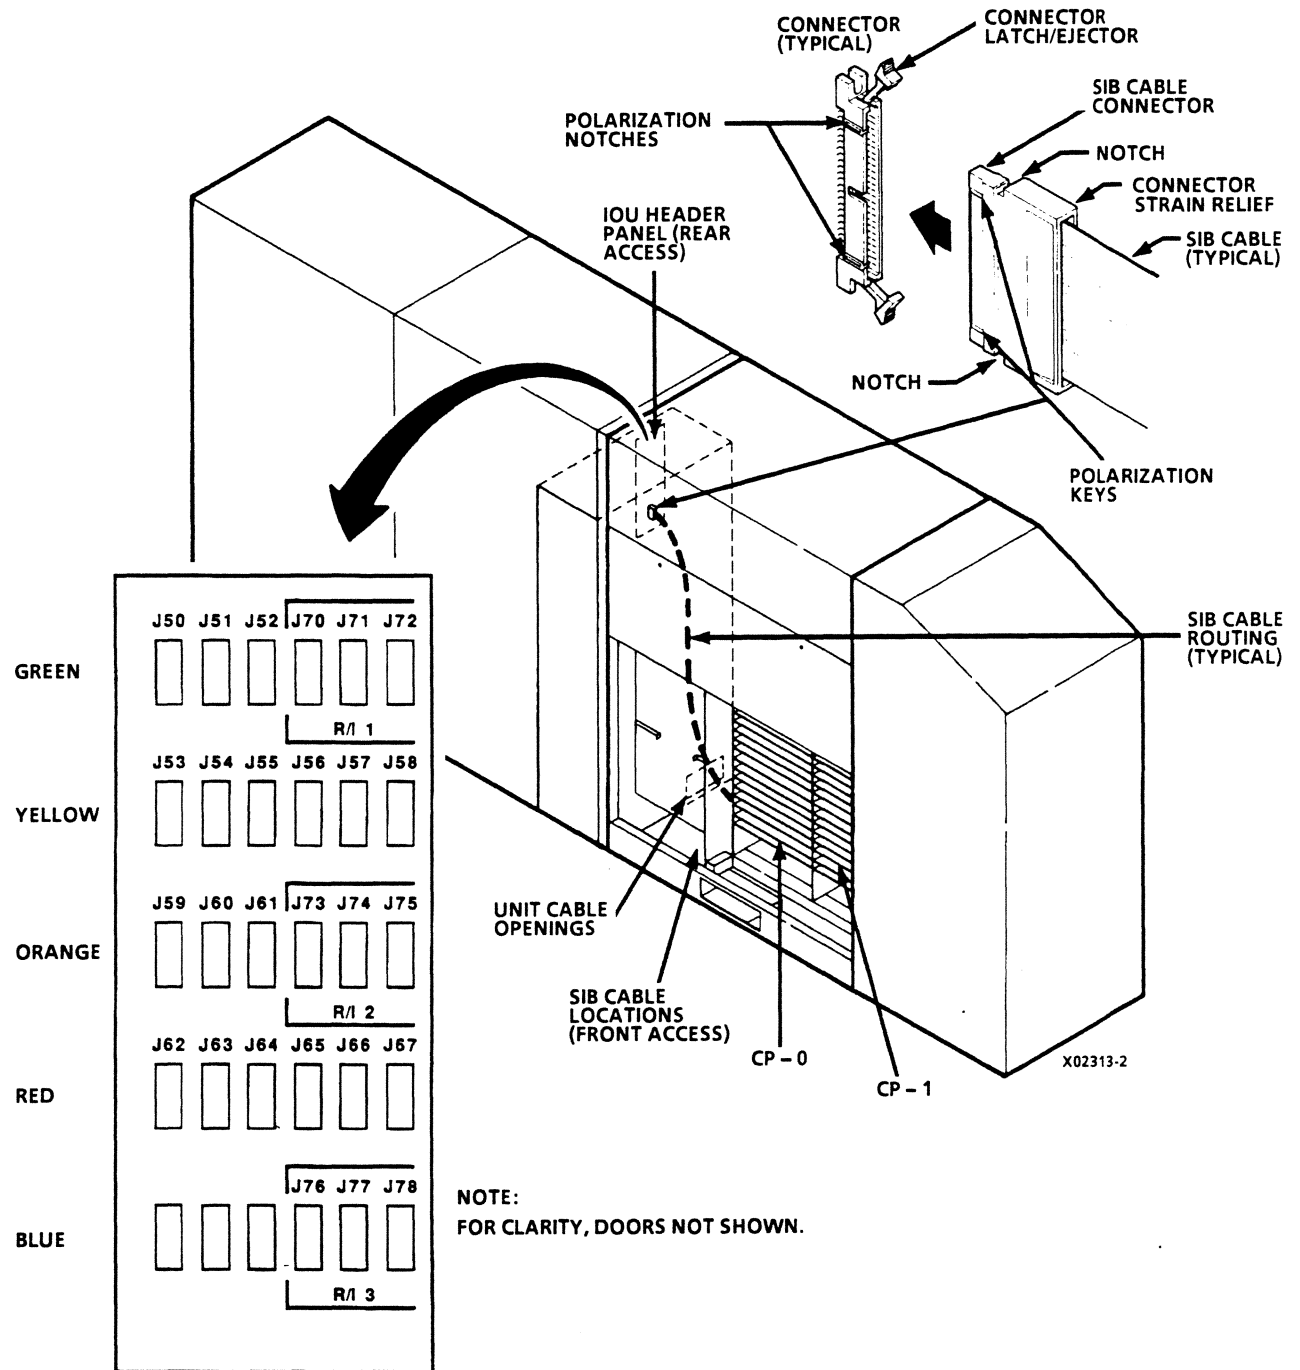

Figure 2-18. CP-0/CP-1 to IOU Cable Connections
- ___ 2. Access SIB cables from bottom and front of CPU (figure 2-18).